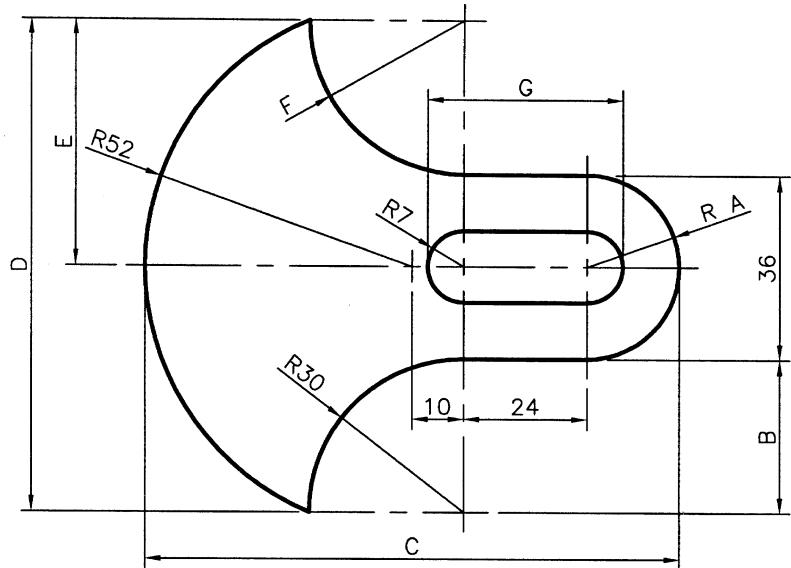

Figure Q3a
3. Identify the numerical value of the dimension letters given in figures Q3a and Q3b: